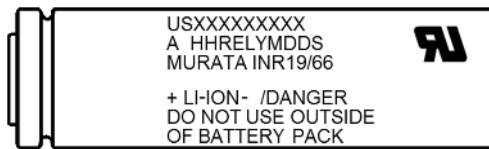
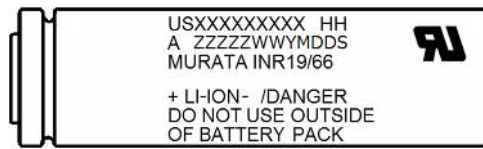

Fig.1
Fig.2
5.2 Model Name(Fig.1, Fig.2 : USXXXXXXXXX)
5.3 Factory(Fig.1, Fig.2 : A for factory code)
【Fig.1】 K : Tohoku Murata Manufacturing Co., Ltd. Koriyama Plant.
【Fig.2】 SG or G : Murata Energy Device Singapore Pte. Ltd.
5.4 Specification(Fig.1, Fig.2 : HH for Cell Type)
5.5 Lot Number(Fig.1, Fig.2: YMDDS for Manufacturing Date of Cells)